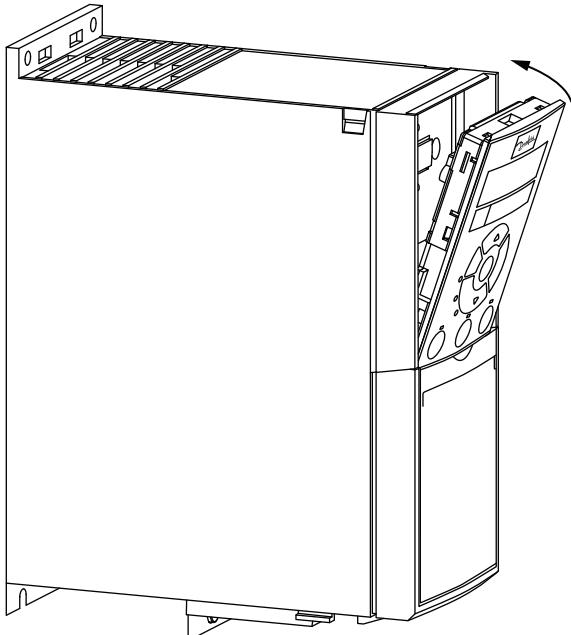

Fig. 68 — Secure Keypad in Place
2. Push the top of the VFD keypad into the variable frequency drive as shown in Fig. 68.